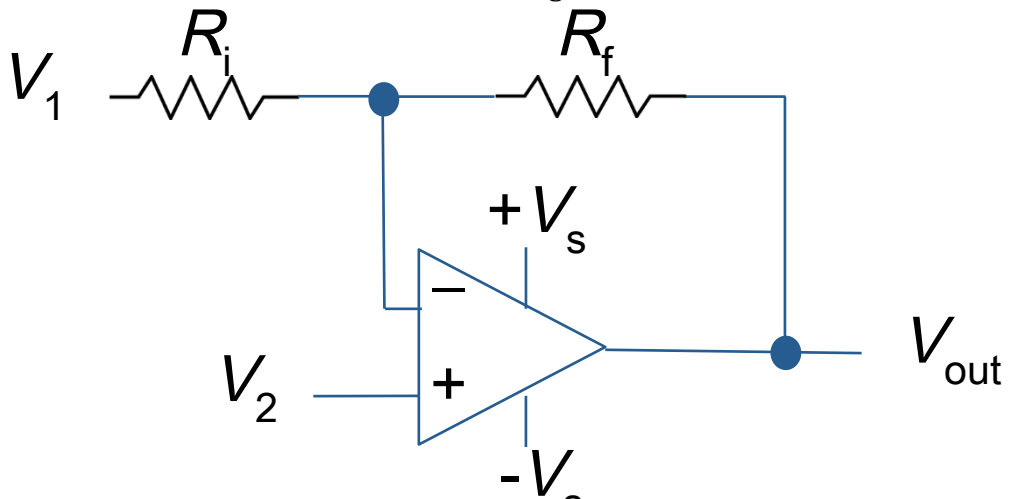

Fig. 1 Opamp gain and offset circuit
- In the following questions, you want to calibrate a linear sensor using the circuit in Fig. 1 so that its output range is 0 to 5V. Identify which of V_1 and V_2 will be the input voltage and which the reference voltage, the value of the reference voltage, and the value of R_f/R_i in each case. If the calibration can't be done with this circuit, explain why.